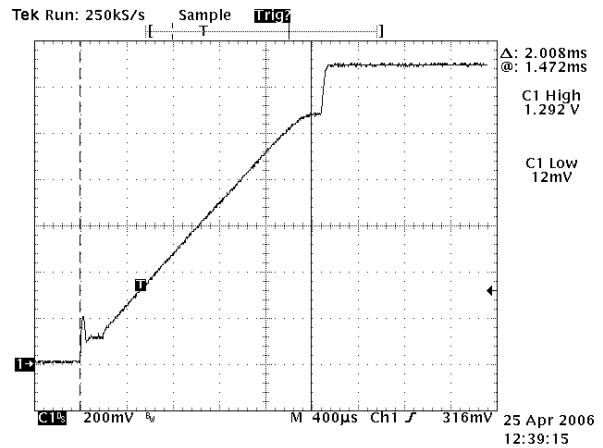

Figure 16. VR11 Startup
The controller supports two different startup routines. A legacy VR10 ramp to the initial VID code, or a VR11 Ramp to the 1.1 V VID code, with a pause to capture the VID code then resume ramping to target value based on an internal slew rate limit. See Figures 16 and 17. The controller is designed to regulate to the voltage on the SS pin until it reaches the internal DAC voltage. The soft-start cap sets the initial ramp rate using a typical 5.0 µA current. The typical value to use for the soft-start cap (SS), is typically set to 0.01 µF. This results in a ramp time to 1.1 V of 2.2 ms based on equation 1.